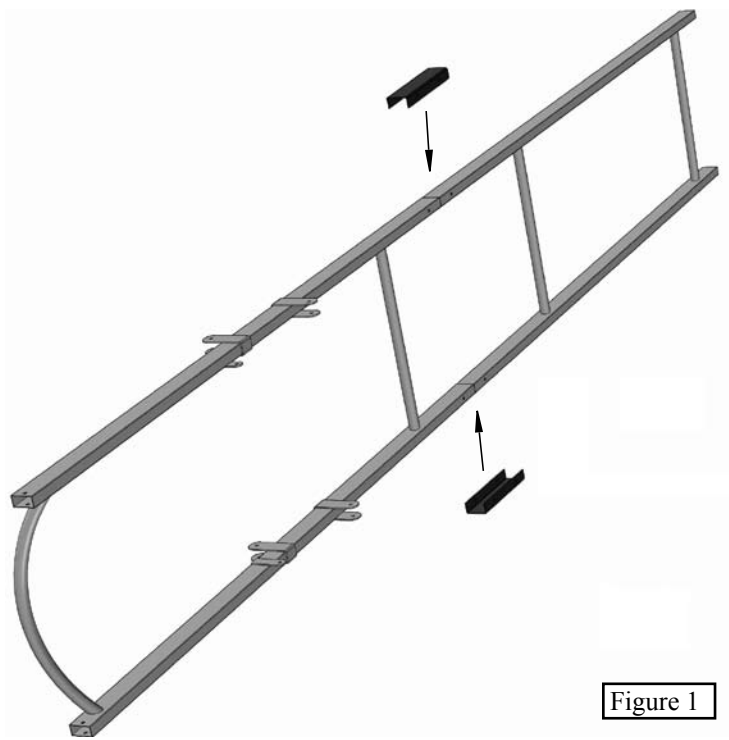

Figure 1
Step 1. Position the Bottom Support Assembly and the Top Support Assembly as shown in **Figure 1**. **NOTE:** the correct orientation and rung location.